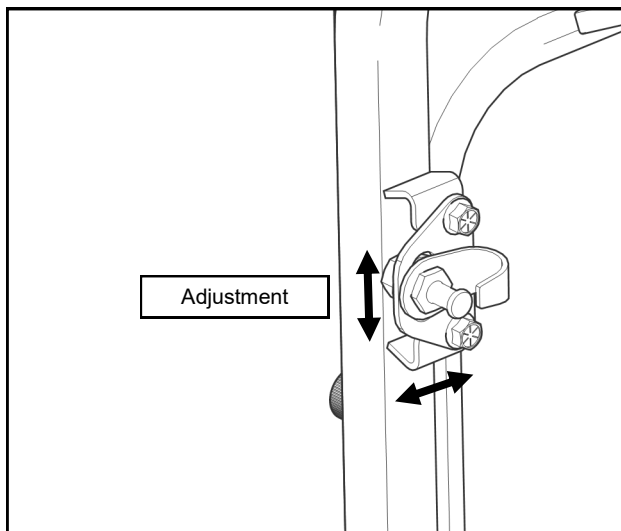

Fig. 23.3 (Striker Pin Adjustment)
23.3 Stand back and examine the alignment of the door with the roof and the A-pillar. You can adjust this by moving the striker pin up or down as shown in fig. 23.3 to help with alignment. *TIP: In the final step, the front of the door will drop a small amount the first time you open it. Set the front of the door a little bit higher so it aligns properly.* Adjust as necessary until you are happy with the alignment. Have an assistant sit inside the cab and once more carefully close the door like you did in step 23.2. Work with the assistant and tighten the hinge bolts.
23.4 Open the door and check for smooth operation of the latch. As noted in step 23.3, the door will likely drop a little bit at the front and the striker pin will need to be adjusted down accordingly. Also make sure the door seal is making contact along the perimeter of the door and the latch clicks twice when closing. If necessary adjust the striker in or out to achieve this (see Figure 23.3).